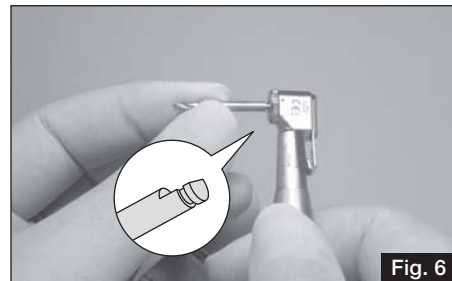

Fig. 6
2) Match the notch of the Bur to the corresponding part of the shaft and push the Bur all the way through (Fig. 6).